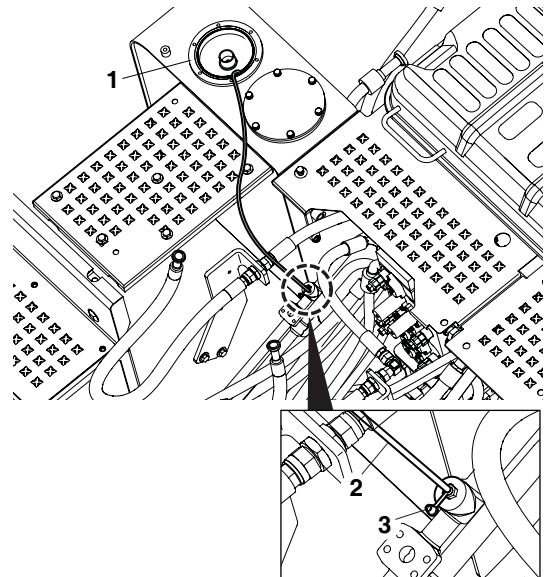

Figure 146
4. Connect an end of hose (2, Figure 146) to screw of poppet (3, Figure 146).
5. Slowly loosen screw of poppet (3, Figure 146) by 4 ~ 5 turns. This allows the hydraulic oil in the boom circuit to drain into the hydraulic tank. The boom will now start to lower.
6. Make sure that work tool has lowered all the way to the ground. Tighten screw of poppet (3, Figure 146) to a torque of 1.96 N.m (0.2 kg.m, 1.45 ft lb).
7. Disconnect hose (2, Figure 146) from screw of poppet (3, Figure 146). Do not allow the oil that is contained in hose (2, Figure 146) to spill.
8. Connect hose (2, Figure 146) to the original position on the hydraulic tank and install the oil tank cover (1, Figure 146).